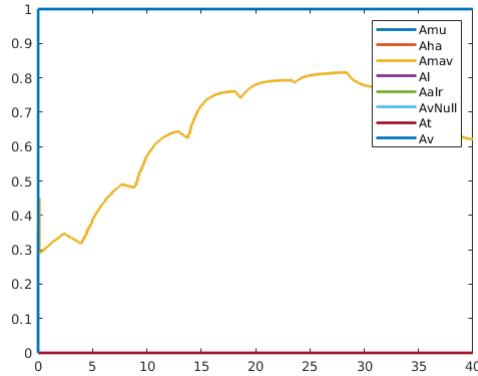

Figure 12: MAV activation plot
- The second difference is that *Minimum Altitude* is an inequality task rather than *Landing* which is an equality one. As visible on the plots below (Figure 12), MAV is active when we are under the defined threshold while *Landing* is triggered only when a prerequisite is satisfied and it is not deactivated until we land on the seafloor.